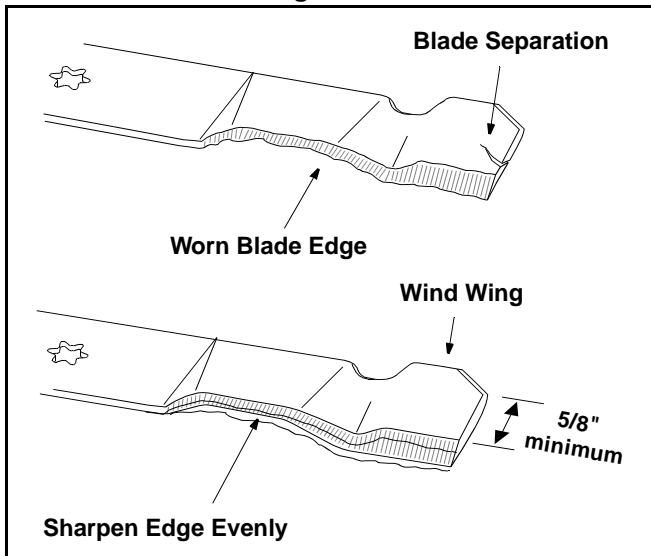

Figure 12
To properly sharpen the cutting blades, remove equal amounts of metal from both ends of the blades along the cutting edges, parallel to the trailing edge, at a 25° to 30° angle. See Figure 12.
**IMPORTANT:** If the cutting edge of the blade has already been sharpened to within 5/8" of the wind wing radius, or if any metal separation is present, replace the blades with new ones. See Figure 12.